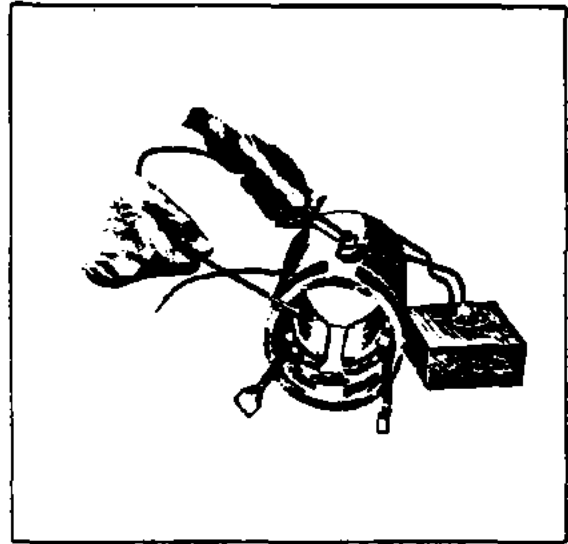

Figure 11-45. Testing Motor Fields for Grounds
a. Check the field coils for grounds (Refer to Figure 11-45) by placing one test probe on the frame and the other on the starter terminal. Be sure the brushes are not accidentally touching the frame. If the lamplights, the fields are grounded. Repair or replace.